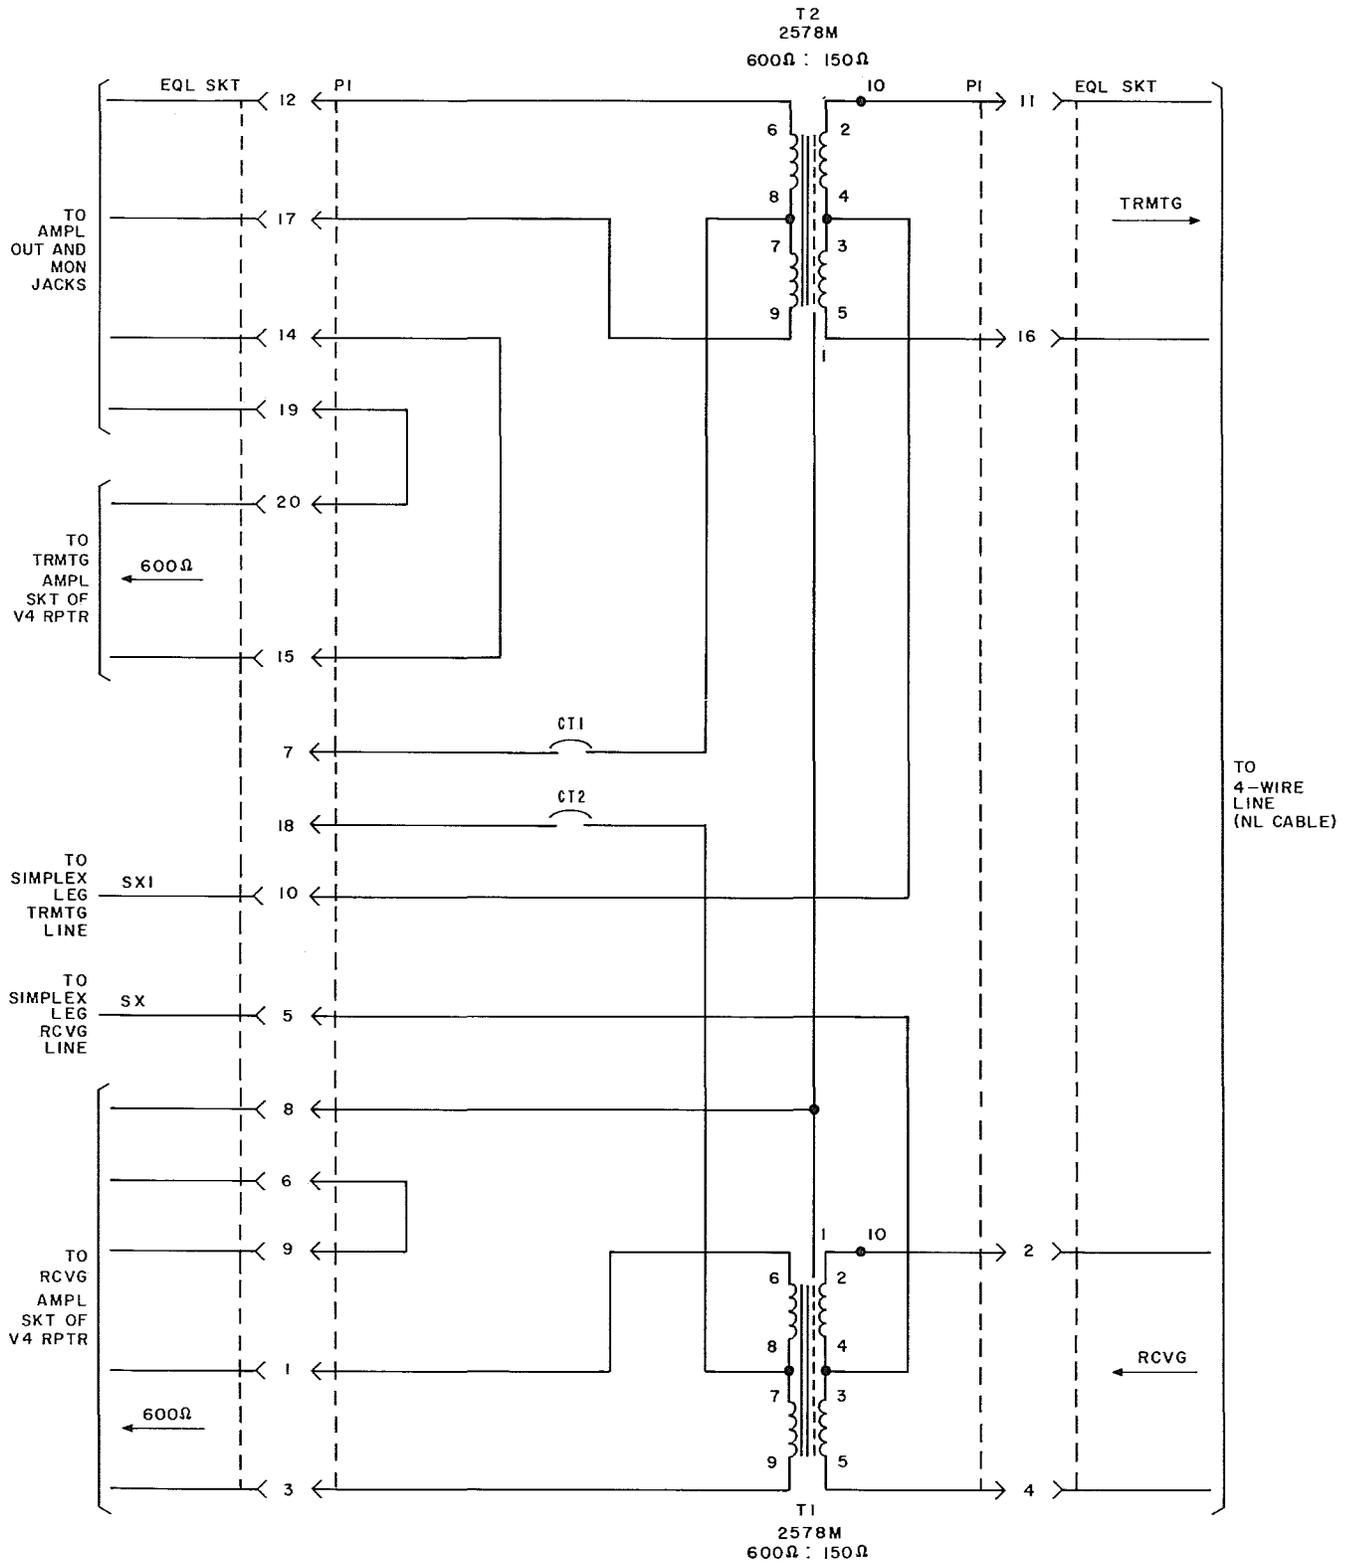

Fig. 2—359M Equalizer—Schematic and Typical Circuit Connections
3.01 Figure 2 is a schematic illustrating typical circuit connections when the 359M equalizer is plugged into the equalizer socket of a 24V4 or 44V4 repeater. The transmitting side of the 359M equalizer is wired to provide connections to the AMPL OUT and MON jacks. The 2578M 600:150-ohm transformer T2 couples the 600-ohm terminals of the TRMTG AMPL socket of the repeater shelf to the transmit cable pair. The centertap of transformer T2 on the 150-ohm side is brought out to terminal 10 to derive a simplex leg of the transmitting cable pair.